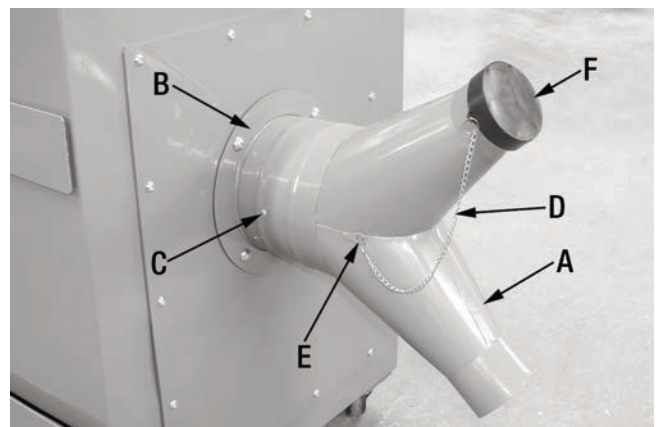

FIGURE 7
- 2) Install the inlet adaptor (A) Fig.7 over the 6" inlet (B). Line up the threaded hole of the 6" inlet with the hole in the adaptor. Secure the inlet adaptor using a flange pan head screw (C).
- 1) Attach the inlet end cap chain (D) Fig.7 to the inlet adaptor ring (E) on the inlet adaptor (A). Install inlet end cap (F) to one of the inlets.